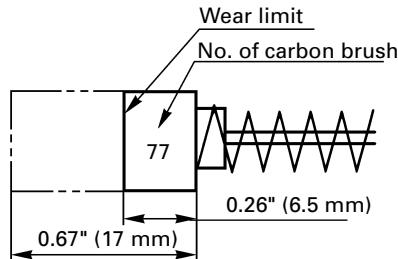

Fig. 21
## 5. Inspecting the carbon brushes: (Fig. 21)
**NOTE:** Use HITACHI carbon brush No. indicated in Fig. 21